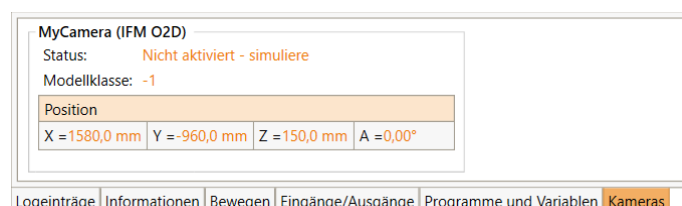

Figure 40: Camera status area
- CRI interface: The image is transmitted via the Ethernet interface to iRC and can be observed there in the camera status area (see fig. 40).